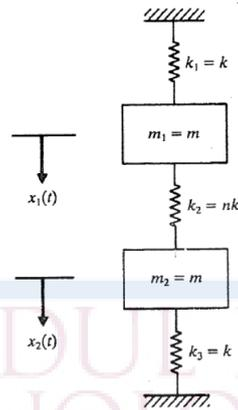

Fig. 3 (14)
18. Find the natural frequencies and mode shapes of a spring mass system shown in Fig. 3 , which is constrained to move in the vertical direction